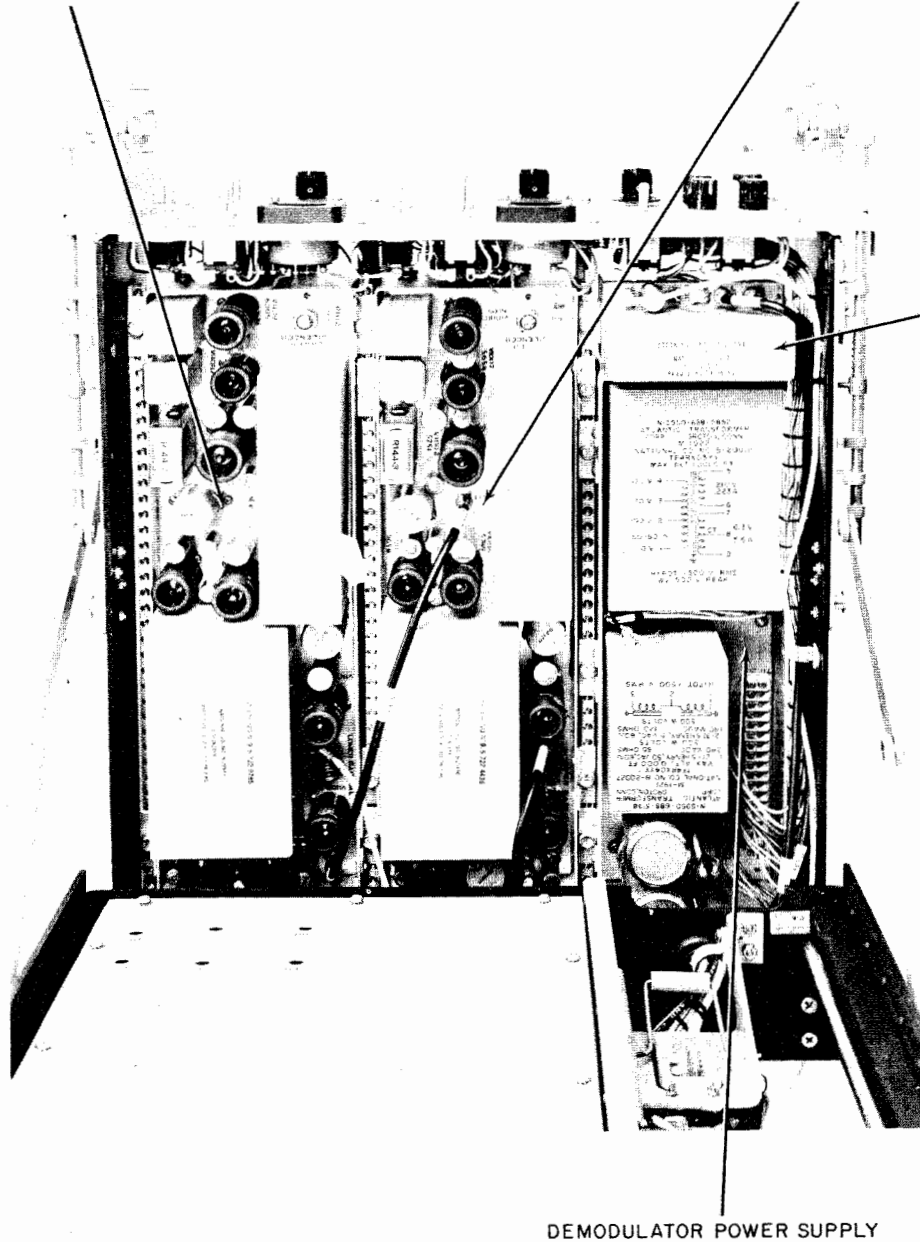

Figure 6-8. Demodulator Drawer, Lower Deck, Top View
(1) 80 KC IF FILTER. (See figure 6-8.)
(3) USB DETECTOR-AMPLIFIER. (See figures 6-8 and 6-9.)